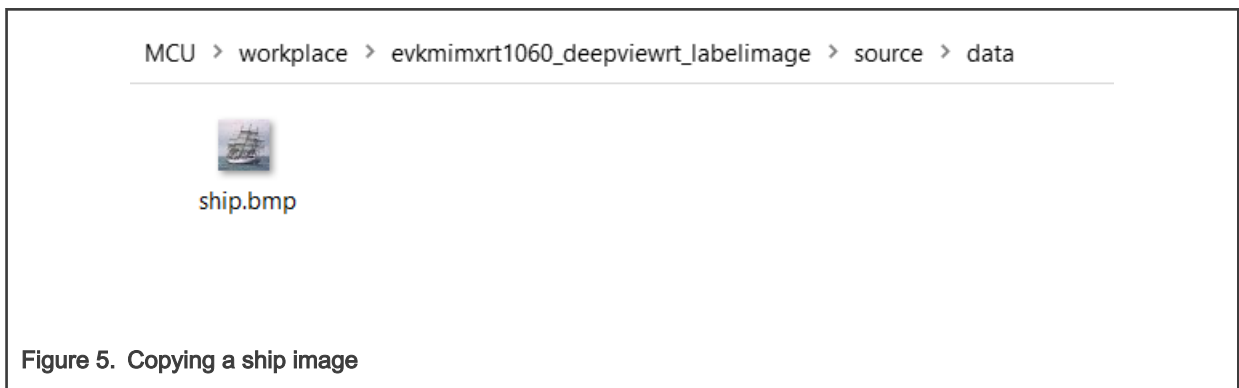

Figure 5. Copying a ship image
- Copy a ship image into `source/data/` at the same time, as shown in Figure 5.